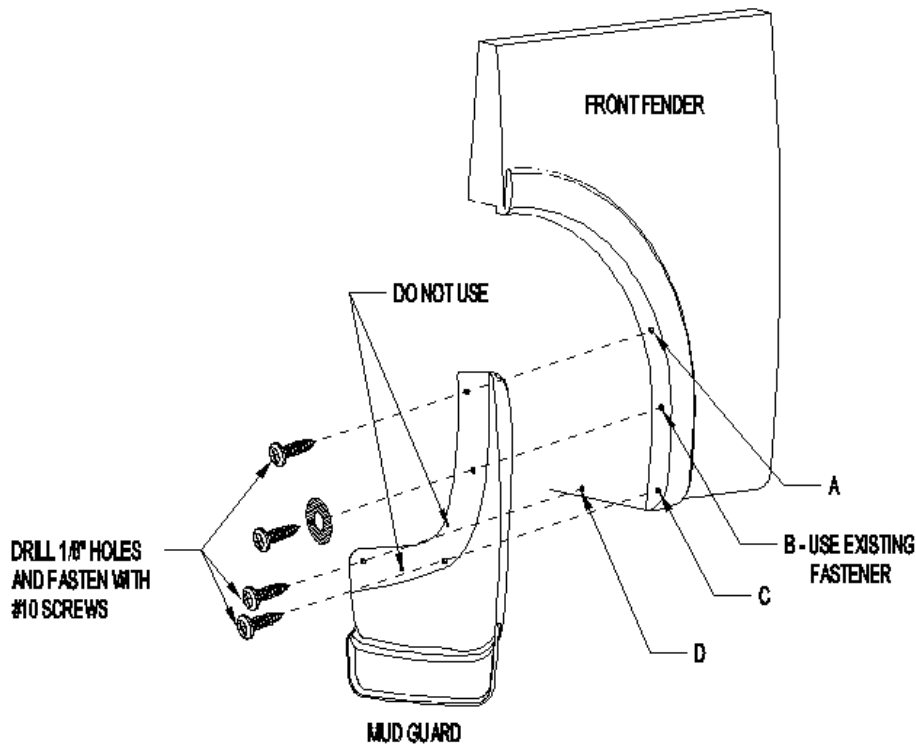

Figure 1
2. Remove factory fastener from locations B (Figure 1).
4. Using the mud guard as a template, center punch and drill an 1/8" hole at location A, C and D (Figure 1).
NOTE: DO NOT USE SMALL HOLES FOR FASTENING (Figure 1).